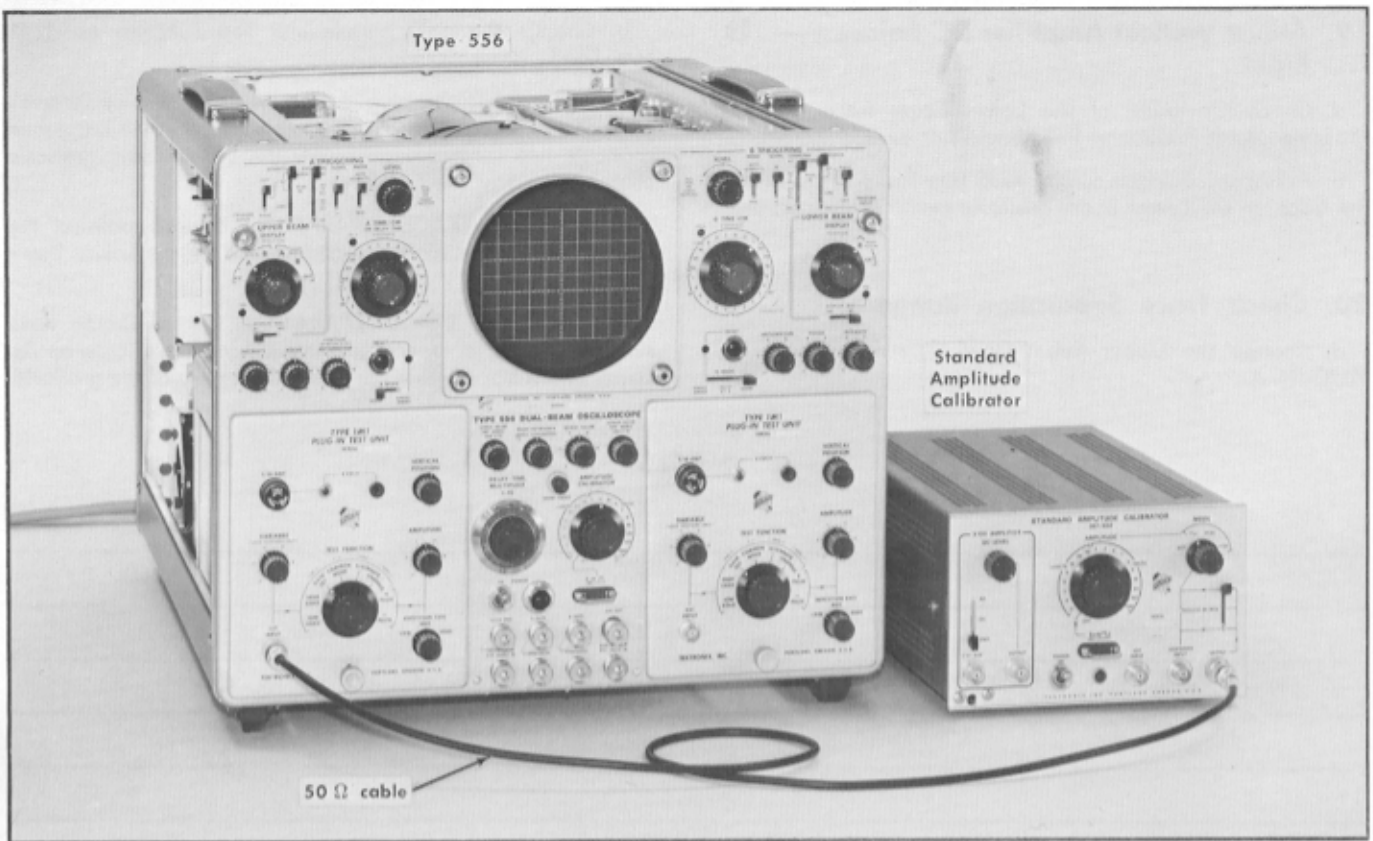

Fig. 6-22. Equipment setup for vertical amplifier gain adjustments.
- a. The equipment setup for this step is shown in Fig. 6-22.